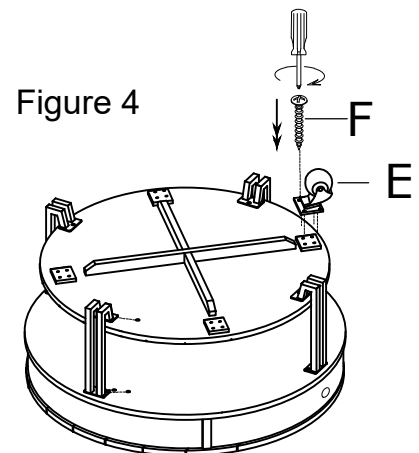

Figure 4
5. Attach the caster (E) using screw (F) tighten with the screwdriver. As Shown in Figure 4.